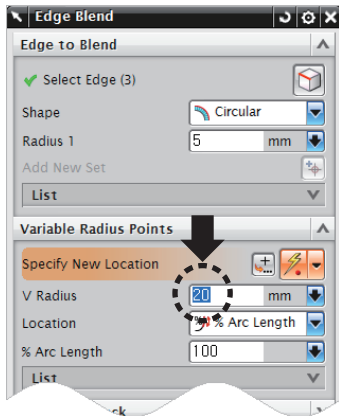

Fig 6-31 V Radius Value
8. Delete the value in the **V Radius** input box shown in Fig 6-31 and type 20, then press the **Enter** key.